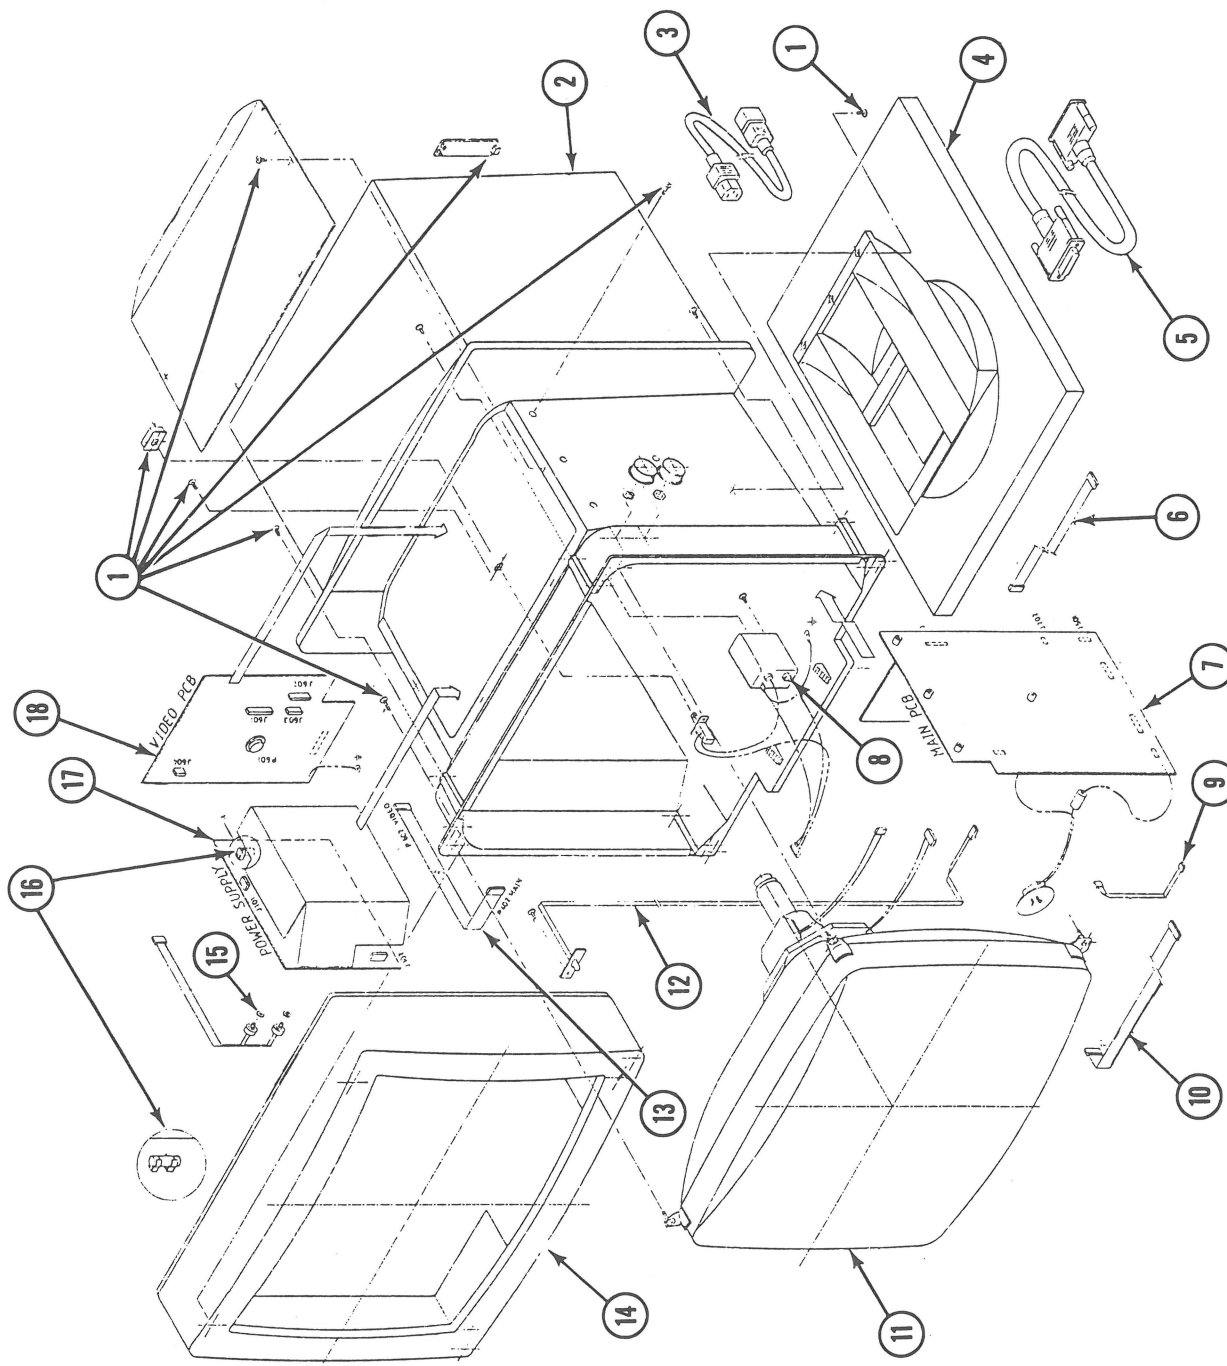

FIGURE 1
(Figure 1)
□ APPLE TWO-PAGE MONOCHROME MONITOR (Figure 1)